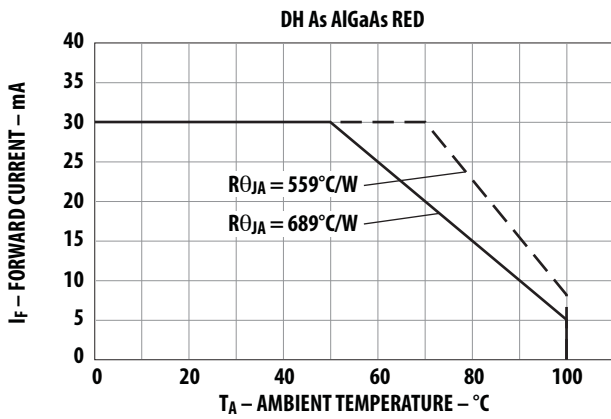

Figure 5. Maximum forward dc current vs. ambient temperature. Derating based on  $T_{jMAX} = 110^{\circ}C$ .
1. See Figure 5 for maximum current derating vs. ambient temperature.